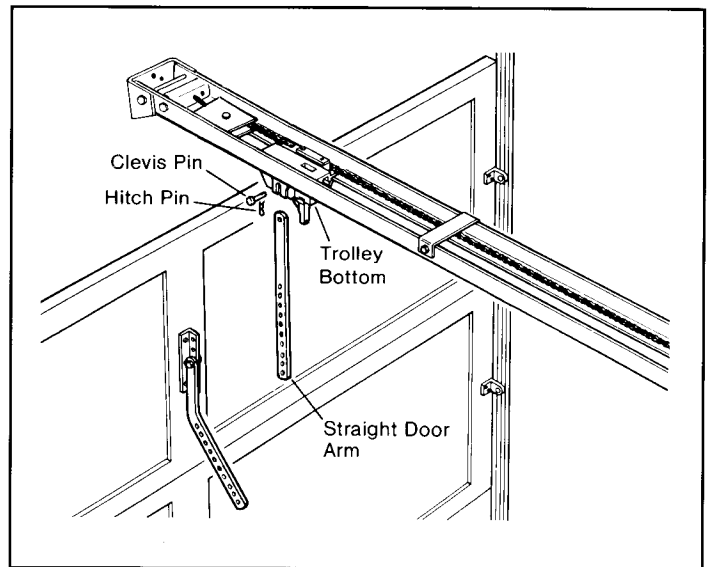

Figure 15
Step 33: Insert the straight section of the door arm into the quick-release trolley bottom and insert the clevis pin through the quick-release trolley bottom and door arm and lock in place with hitch pin (see Figure 15).